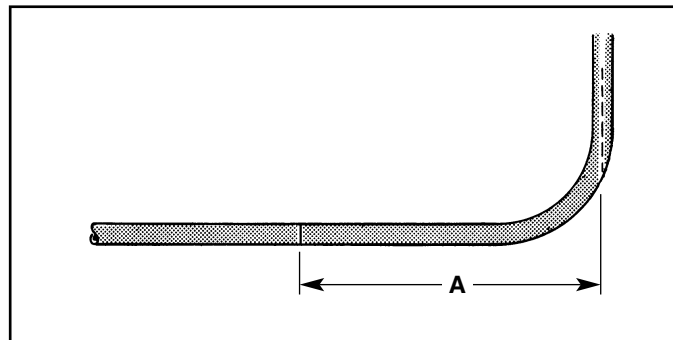

Figure 5
10. If more than one bend is required, measure from center line of the preceding bent leg and mark tube to blueprint dimension (See Figure 5). Position tube in bender as outlined in Step 6.